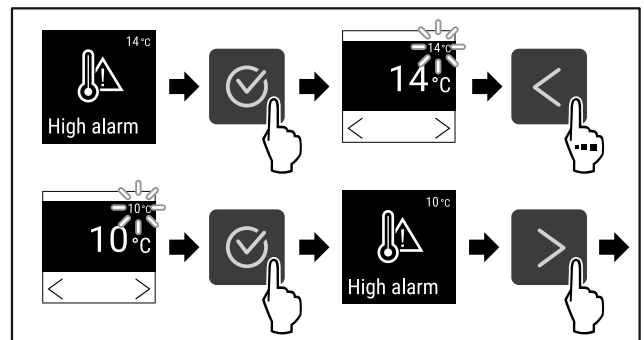

Fig. 114
- ▶ Complete steps (see Fig. 114).